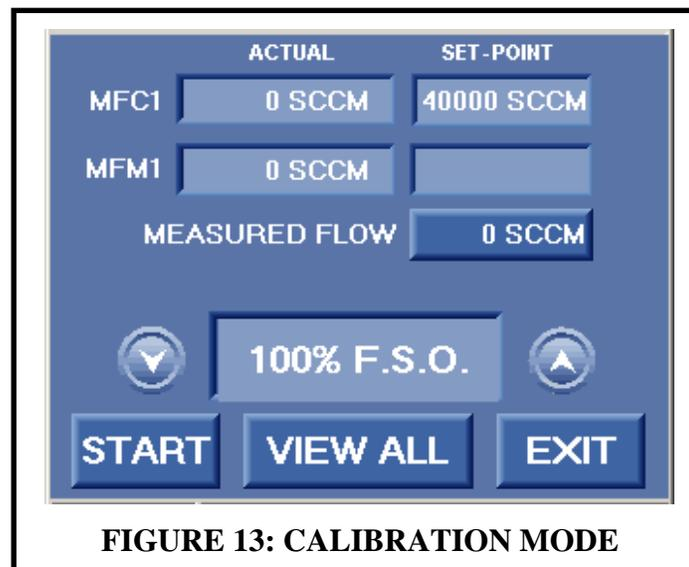

FIGURE 13: CALIBRATION MODE
2. Select the device set to calibrate by pressing the respective full scale flow rate button for each device. The screen shown in figure 13 will appear. The values shown in the depressed fields are read only values and cannot be changed.